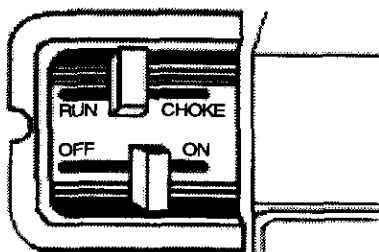

Figure 5
The throttle control lever is located on the engine. It allows the engine to run and also stops the engine. Refer to Figure 5.
4. Move choke control into the CHOKE position. Refer to Figure 5.